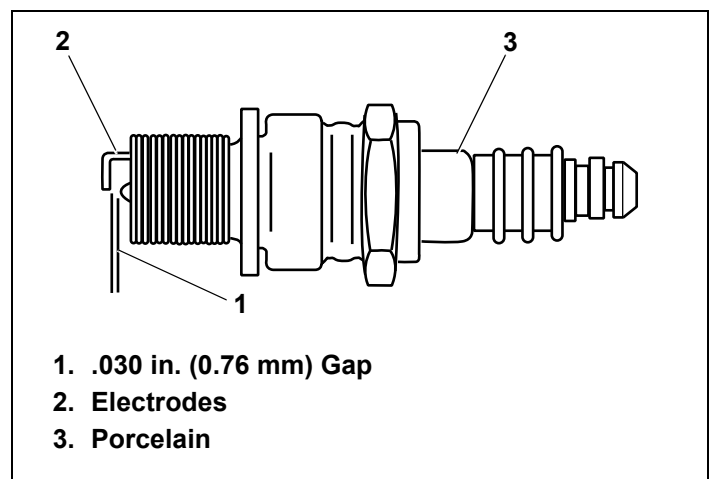

Figure 24. Resistor Spark Plug
4. Check electrode gap with wire feeler gauge and set gap to .030 in. (0.76 mm) if necessary. See Figure 24.